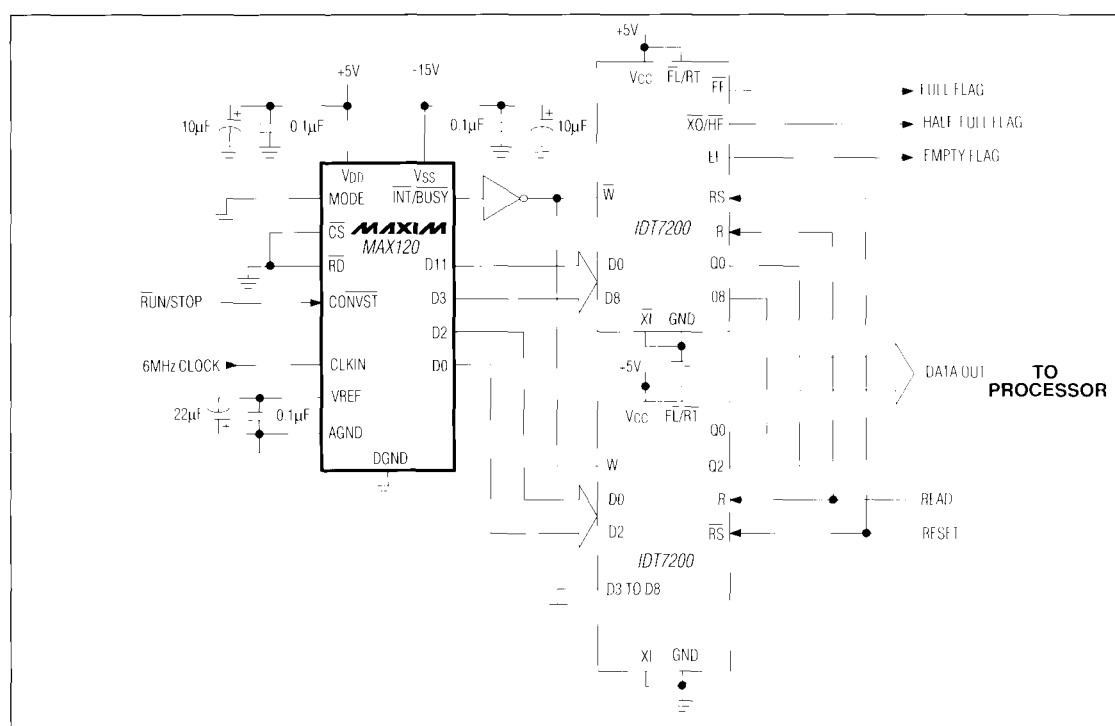

Figure 13. Using MAX120 with FIFO Memory
Using FIFO memory to buffer blocks of data from the MAX120 reduces μ P interrupt overhead time by enabling the μ P to process data while the MAX120, unassisted, writes conversion results to the FIFO. To retrieve a block of data, the μ P reads from the FIFO via a read-interrupt cycle. Read and write operations for the FIFO are completely asynchronous. Figure 13 shows the MAX120 operating in continuous-conversion mode (mode 5), writing data directly into the two IDT7200 256 x 9 FIFO buffers at the rate of 428ksps. The μ P is interrupted to read the accumulated data by the FIFO's half-full (HF) flag approximately three times per millisecond. For operation at 500ksps, use an 8MHz clock, and pulse CONVST at 500kHz. The full flag (FF) indicates that the FIFO is full. If this flag is ignored, data may be lost. If necessary, conversions can be inhibited by pulling CS, RD, or CONVST high. The FIFO's read cycle times are as fast as 15ns, satisfying most system speed requirements. The RESET input resets all data in the FIFO to zero.